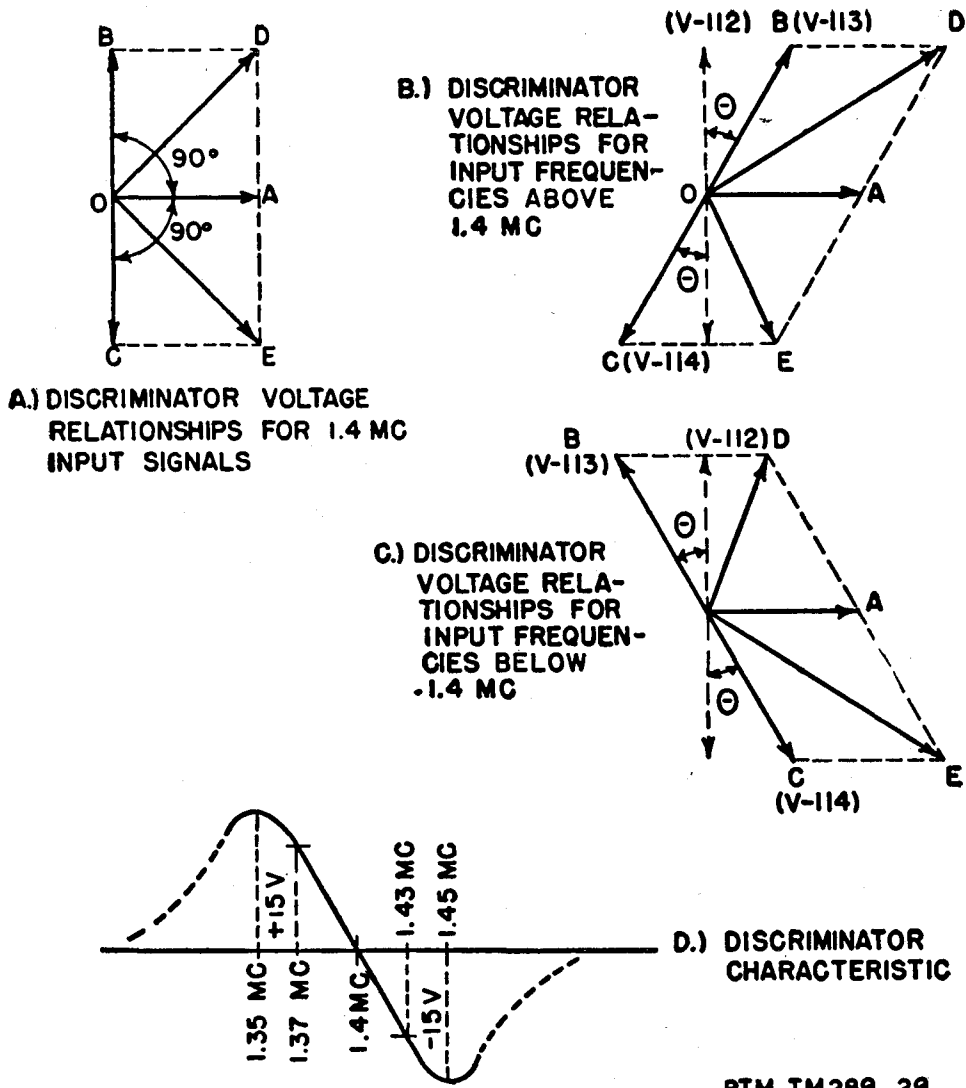

Figure 26. Discriminator theory, vector diagram.
itude and opposite in polarity. The net voltage across the output of the discriminator thus is equal to zero. This fact is measured across resistor R-168. Vector diagram A of figure 26 illustrates the phase relationships discussed above for the resonance condition. Vector OA is the voltage applied to each of the diode plates by direct connection (in-phase). OB and OC are the voltages applied by induction to the plates of V-113 and V-114, respectively, during one half-cycle of the signal voltage. During the second half-cycle, the polarity of the two vectors is reversed. OD and OE are the resultant voltages at the two diode plates.
- (2) When the signal frequency deviates from the resonant frequency, the tuned circuits are no longer resistive and impart a reactive component to the voltages applied to the diode plates by induction. The component of voltage applied to the diode plates by direct connection remains unchanged with respect to the voltage appearing at the plate of V-112. The 90° phase relationship between the two components at each plate no longer holds. The amount of change in phase at the two diode plates is the same, but is opposite in sense. The resultant voltages applied across the rectifier diodes are no longer equal and opposite in polarity, and a net voltage is developed across the load resistors. For frequencies below resonance, the tuned circuits show an inductive reactance, and the inductively coupled component of voltage is shifted in phase in the leading direction. The larger resultant voltage then is applied to tube V-113. The output voltage across R-164 is larger than that across R-165, and the net output voltage of the discriminator is positive at the junction of pin 3 of V-113 and R-164. For frequencies above resonance, the tuned circuits show a capacitive reactance, the inductively coupled voltage is shifted in phase in the lagging direction, and the larger resultant voltage is applied to V-114. The rectified voltage across R-165 is larger than that across R-164, and the net voltage at the output of the discriminator is positive at the junction of R-165 and pin 3 of V-114. The phase relationships between the inductively coupled and directly coupled components of signal voltages for frequencies below and above resonance are shown in vector diagrams C and B, respectively, of figure 26. The vector designations are the same as those discussed above for diagram A. A typical response
characteristic curve of the discriminator is shown in diagram D of figure 26.